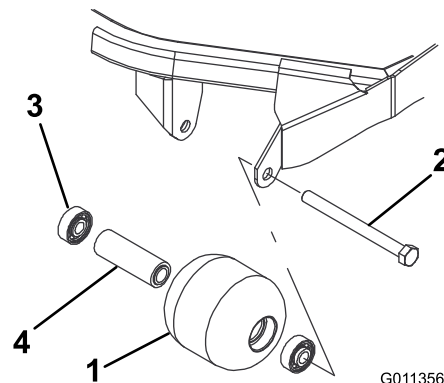

Figure 71
1. Remove the roller mounting bolt (**Figure 71**).
4. Inspect the roller housing, bearings, and bearing spacer for damage (Figure 71). Replace damaged components and assemble.
1. Press the first bearing into the roller housing (Figure 71). Press on the outer race only or equally on the inner and outer race.
2. Insert the spacer (Figure 71).
3. Press the second bearing into the roller housing (Figure 71). Pressing equally on the inner and outer race until the inner race comes in contact with the spacer.